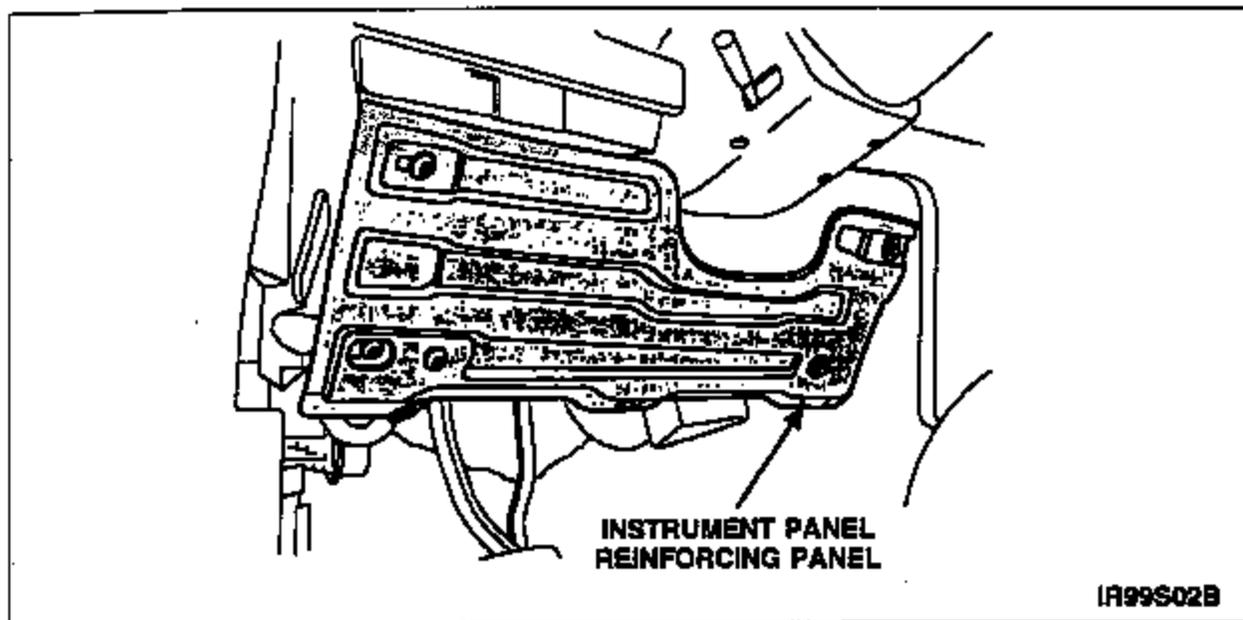

FIGURE 2
4. Remove instrument panel reinforcing panel. See Figure 2.